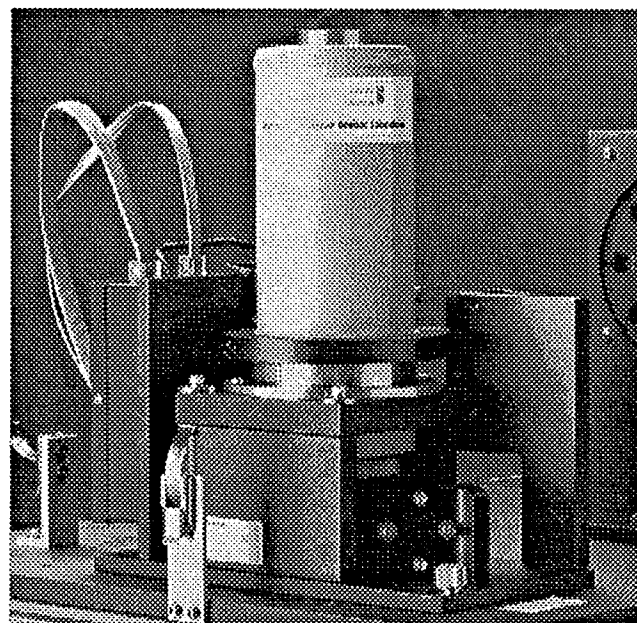

Figure 12. Detector Dewar
- b) Connect the Dewar (see Figure 12).